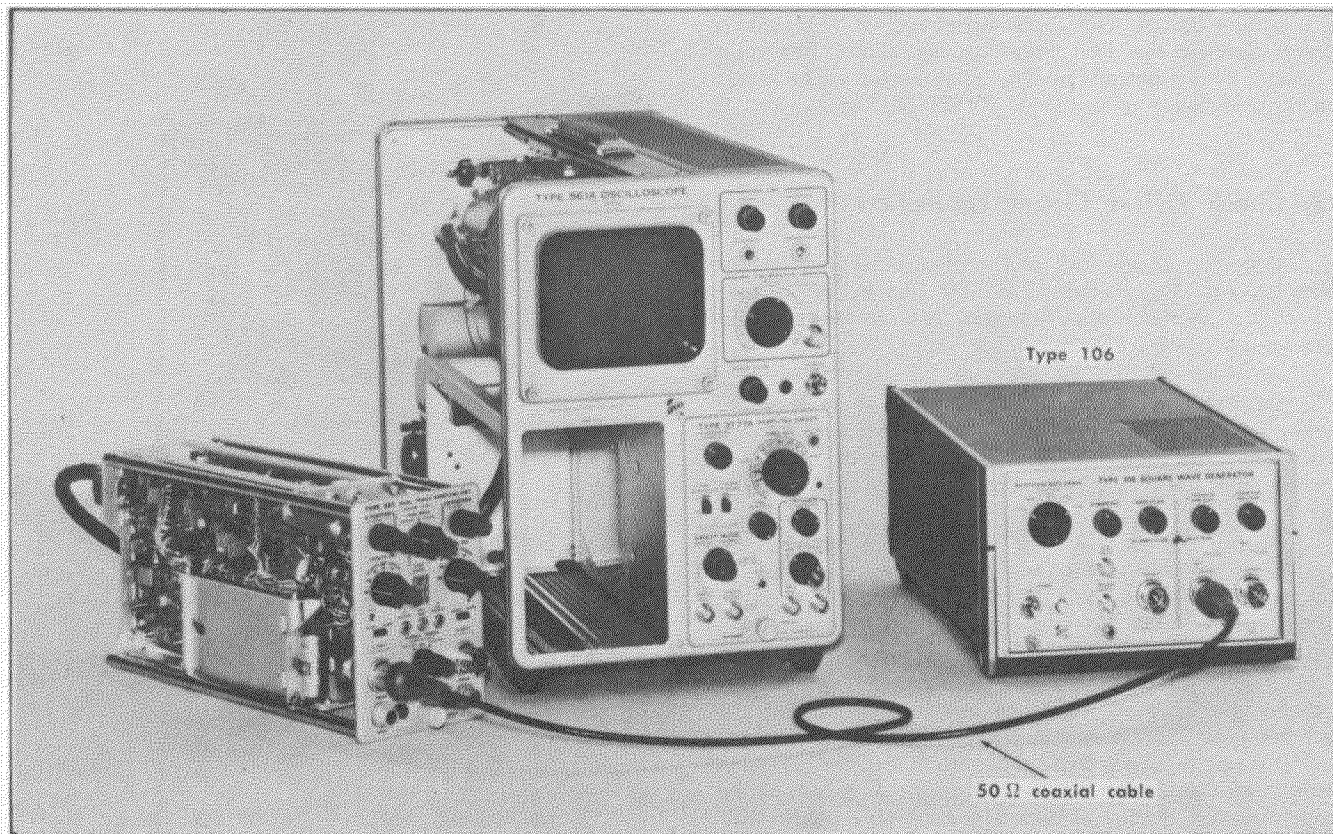

Fig. 8-29. Equipment and connections for Step 24.
a. Make the connections and control settings called out under Fig. 8-29. Adjust the Timing Unit for a stable triggered